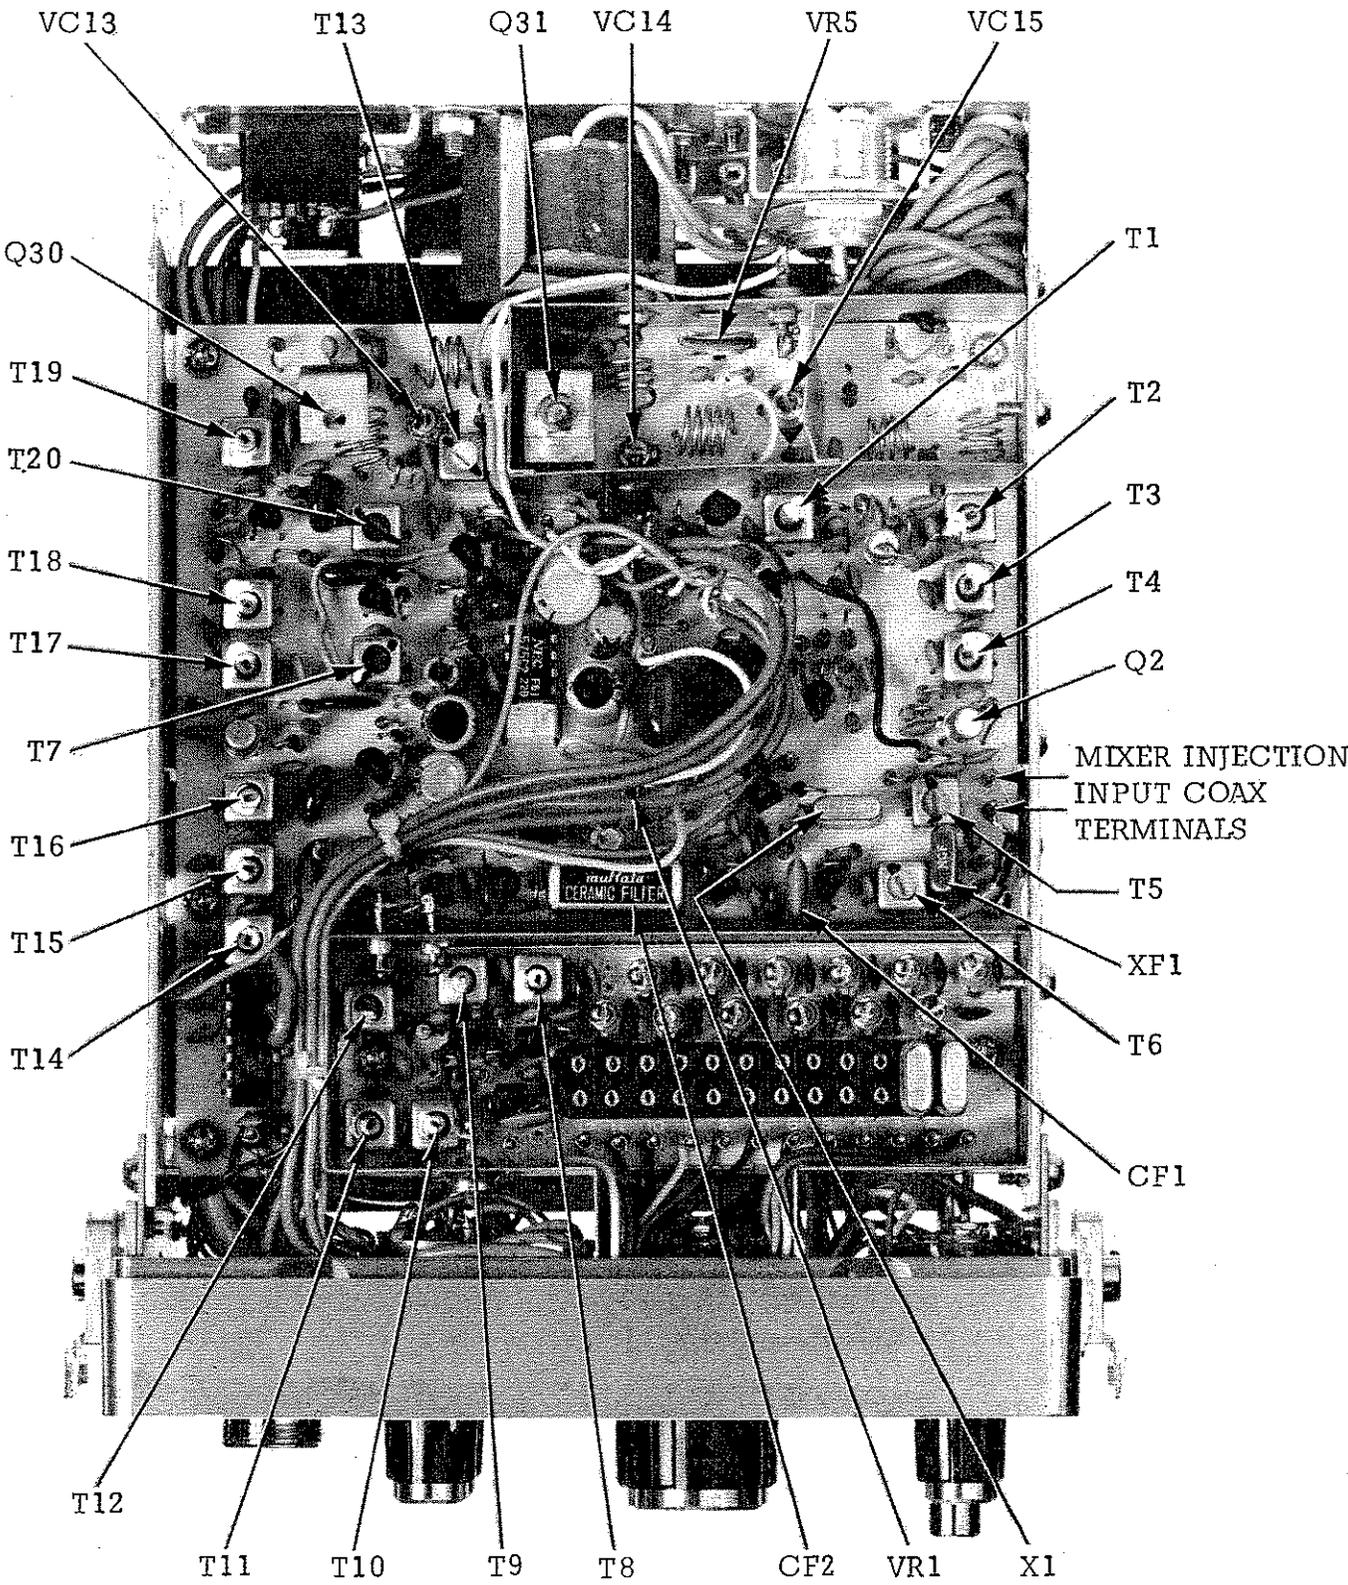

Figure 5-1. Bottom View With Case and Covers Removed
2. Connect an RF voltmeter probe to the mixer injection input terminals near first mixer Q2. See figure 5-1.